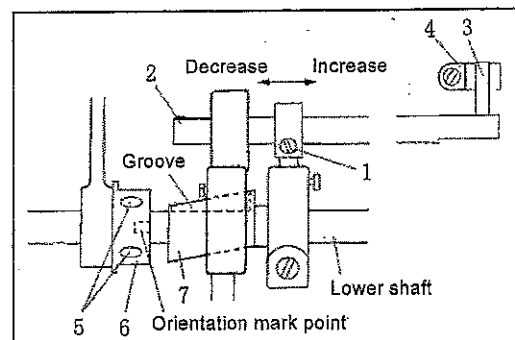

Fig.22
31、 The forward/backward stitch length error adjustment(Fig.22)